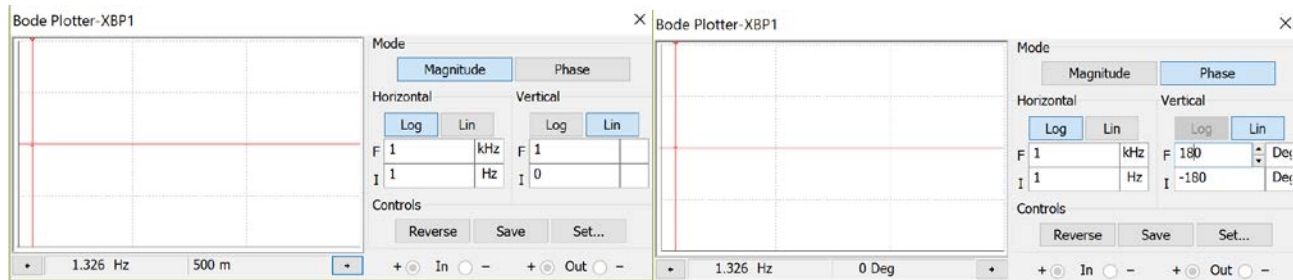

Figure 4.2: Bode Plot from Figure 4.1 with adjustments: Magnitude Response (Left), Phase Response (Right).
- Since it is known that resistors don't change the phase, the phase is verified in Figure 4.2 where the **phase is shown to be 0° for this circuit**. This means that **0° is added to the input phase to get the output phase**. This process might seem pointless for this circuit because the phase doesn't affect the output, but it will be important for circuits that have a Bode plot with a non-zero phase change.
The cursors are set in Figure 4.2 at 1.326 Hz for both the magnitude (left) and phase (right) modes. At 1.326 Hz the gain is listed as “500 m” (or 0.5 V/V) and the phase is 0°. It is apparent from the bode plot that both the gain and phase are constant so the cursors for this circuit will result in 500 m and 0° no matter what the frequency value of the input signal. However, for circuits with inductors or capacitors both the gain and phase will change as the frequency changes so changing the frequency limits, resolution, and cursor position are needed to determine the gain and phase at the desired frequency. Applying the values in the Bode plot in Figure 4.2 to the following input signal at a frequency of 1.326 Hz $\rightarrow v_{in}(t) = 3 \cdot \sin(2\pi \cdot 1.326 \cdot t)$